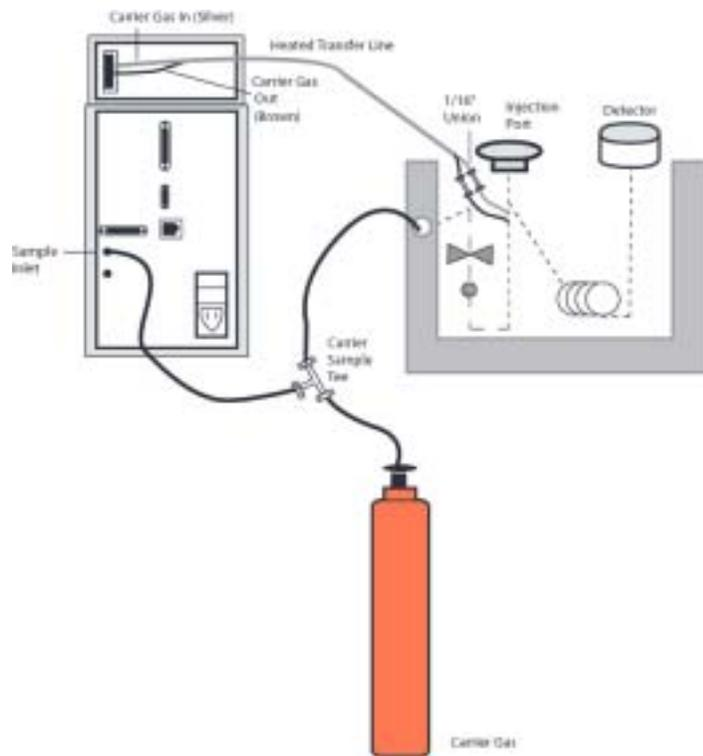

Figure 2-11: Connecting to a Sample Gas Supply
- Install the 1/6" brass tee union (from the kitbox) to the carrier gas supply line to the GC as shown in Figure 2-11.
When you make the connections illustrated in Figure 2-11 the GC supplies and controls carrier gas flow to the Concentrator. Using this configuration keeps the GC injection port free for direct sample injections. Generally speaking, you cannot use a Cryofocusing Module with the configuration shown in Figure 2-11
2. Open the line at a point one or two inches from the injector housing. If a union connects tubing from the carrier gas supply to the injector port inlet, disconnect the union. If there is no union, cut the line and install the 1/16" -1/16" union from the kit box. (Reference Figure 2-11)